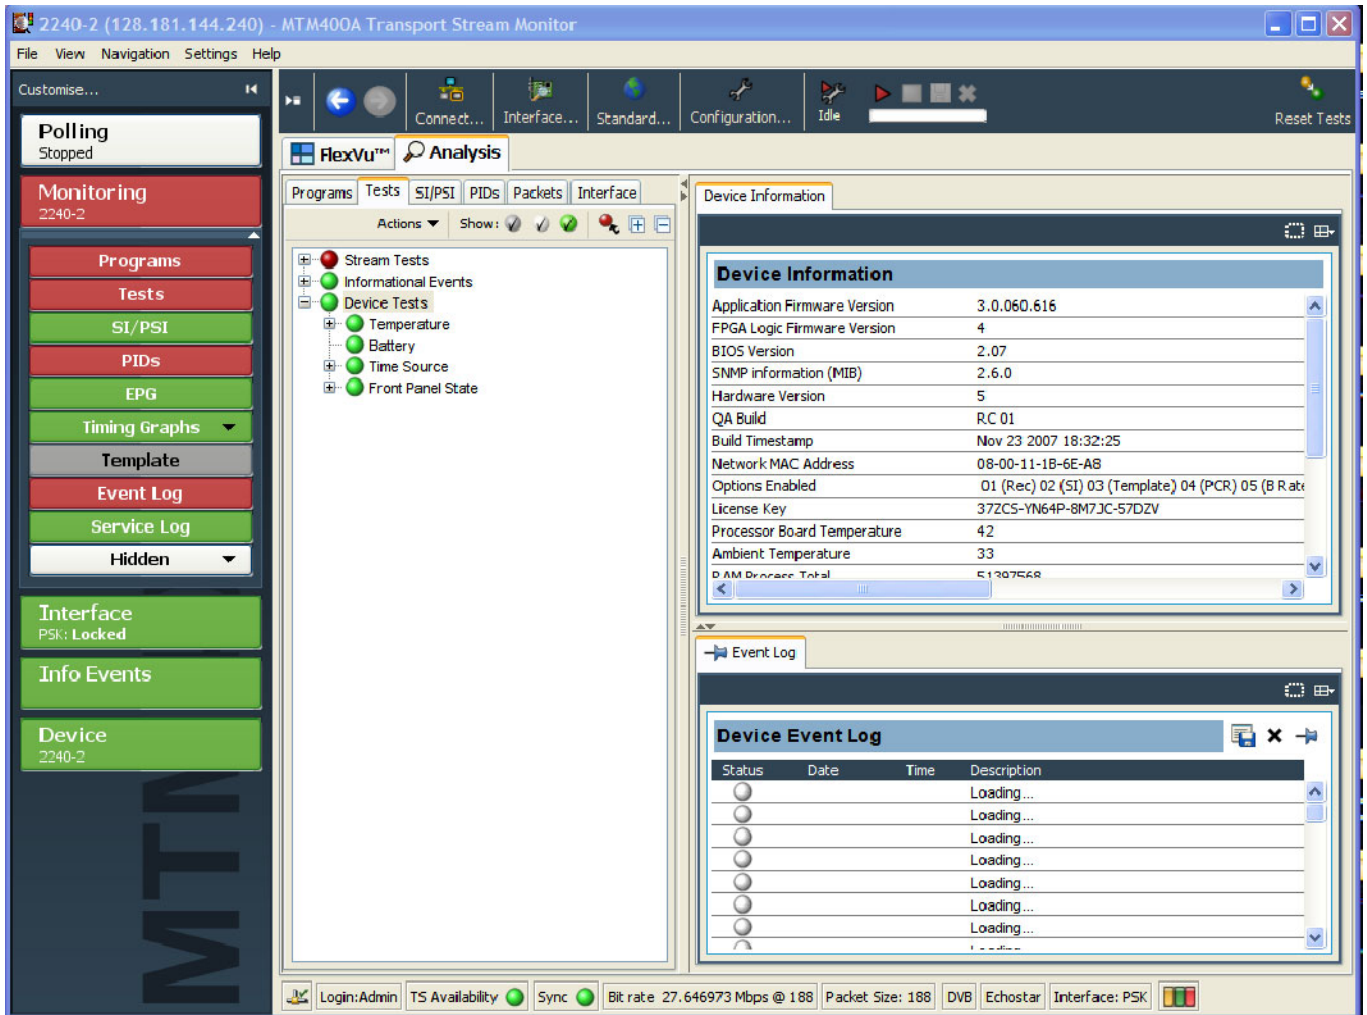

Figure 2-1: MTM400A monitor RUI display
10. When the MTM400A monitor RUI opens, click **Device** in the button bar to display the Device Information view (see Figure 2-1).